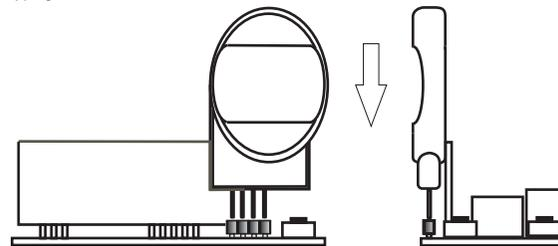

Fig. 3
To plug-in the backup memory remove the transparent cover and plug-in the memory into the corresponding 4-ways female connector (CT), making attention to the right polarization : the round shape has to be put inward facing the radio card. (Fig. 3)